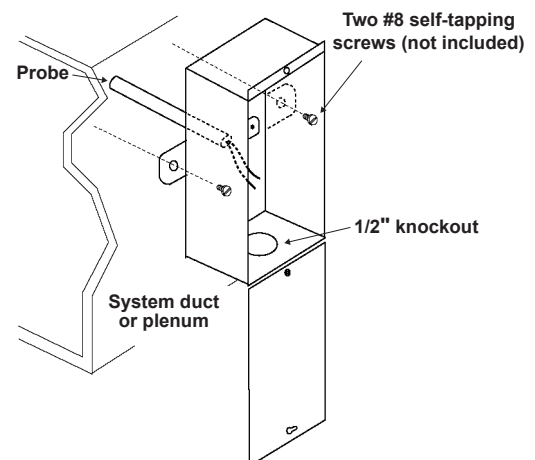

Figure 3 - Installing the TE-702-A, TE-702-B, or TE-702-C Sensor
- Make the wiring connections. Rotate and screw the cover back into place. Refer to **Figure 3**.